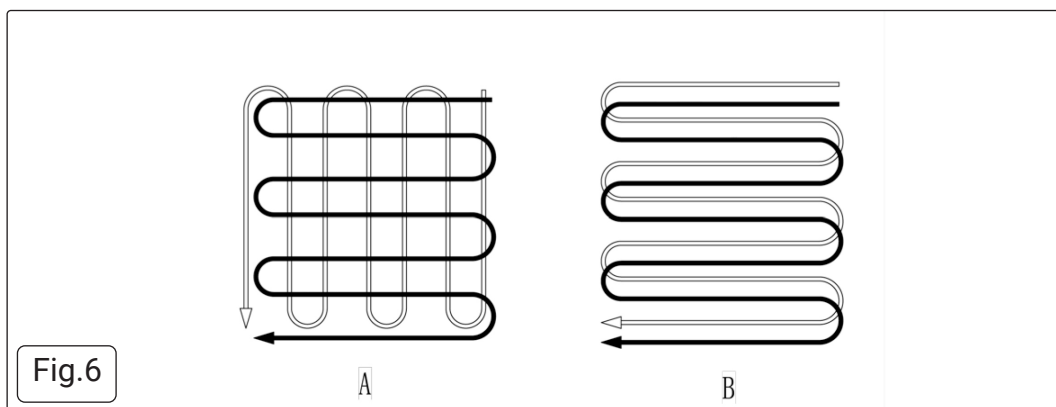

Fig.6
- Tilling Pattern A fig.6– Make two passes over area to be tilled, the second at a right angle to the first.
- Tilling Pattern B fig.6– Make two passes over area to be tilled, the second overlapping the first.